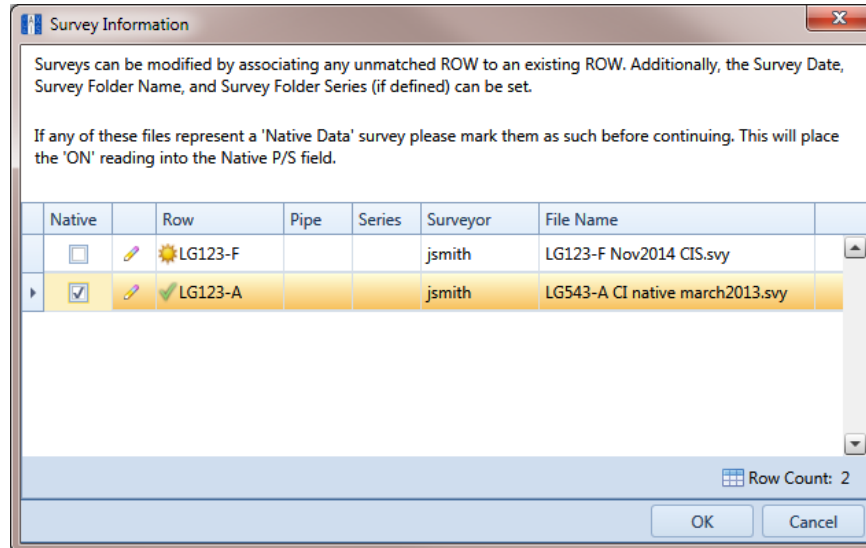

Figure 13-21. Mark Native
- 6 Click  **Import** to open the *Mark Native* dialog box (Figure 13-21).